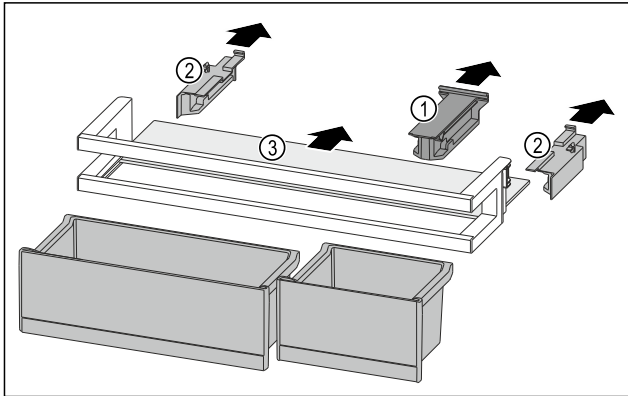

Fig. 131
- ▶ Pull off the retaining part Fig. 131 (1).
- ▶ Pull off the side part Fig. 131 (2).
- ▶ Remove the shelf Fig. 131 (3).